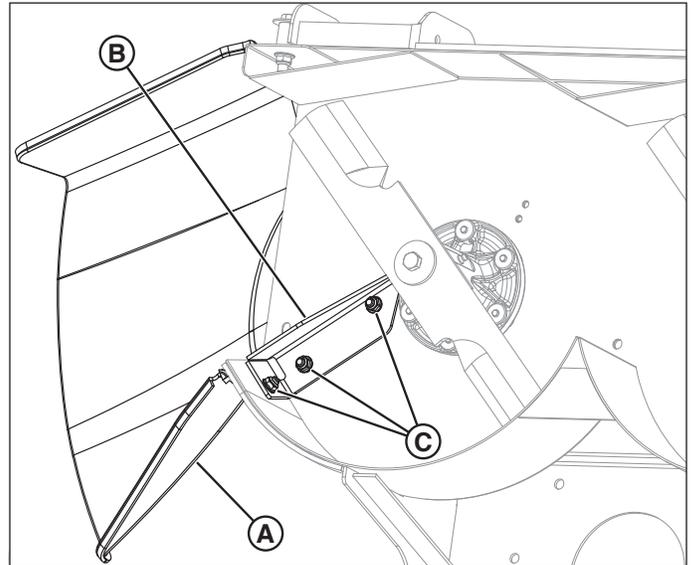
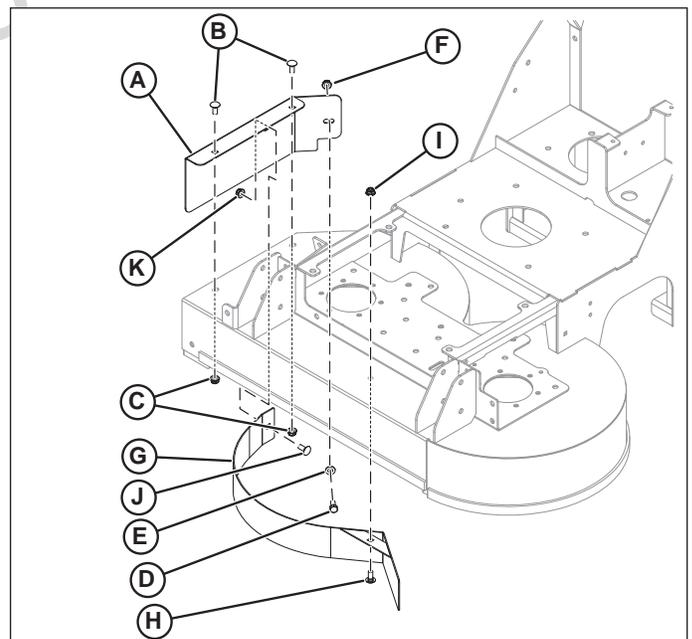

Figure 1. Removing the Deflector Plate
Figure 2. Installing the Mulch Kit
2. Tilt the discharge chute (A, Figure 1) up to access the hardware for the deflector plate (B).
3. Remove the deflector plate by removing the three (3) 5/16 X 3/4" bolts, washers and 5/16 hex nylock flange nuts (C). Retain all components. The components will need to be installed back onto the mower deck for operation when the mulch kit is removed.
4. Install the block off plate (A, Figure 2) to the mower deck using two (2) carriage bolts (B) and nylock flange nuts (C).
5. Install the bolt (D) and washer (E) through the mower deck and the block off plate and secure using a nylock flange nut (F).
6. Install the baffle ring (G) to the bottom side of the mower deck using a carriage bolt (H) and nylock flange nut (I).
7. Install a carriage bolt (J) through the baffle ring and the block off plate and secure using a nylock flange nut (K).